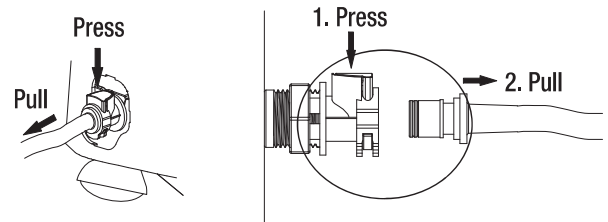

Figure 5
- To disconnect the drain hose, press the release button on connector A, and then pull connector B out. (Figure 5)